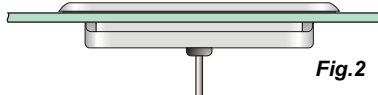

Fig.2
**Step 2** - Remove the double sided adhesive from the back of the spaside. Make certain the spaside is straight and adhere to the spa shell. (Fig.2)